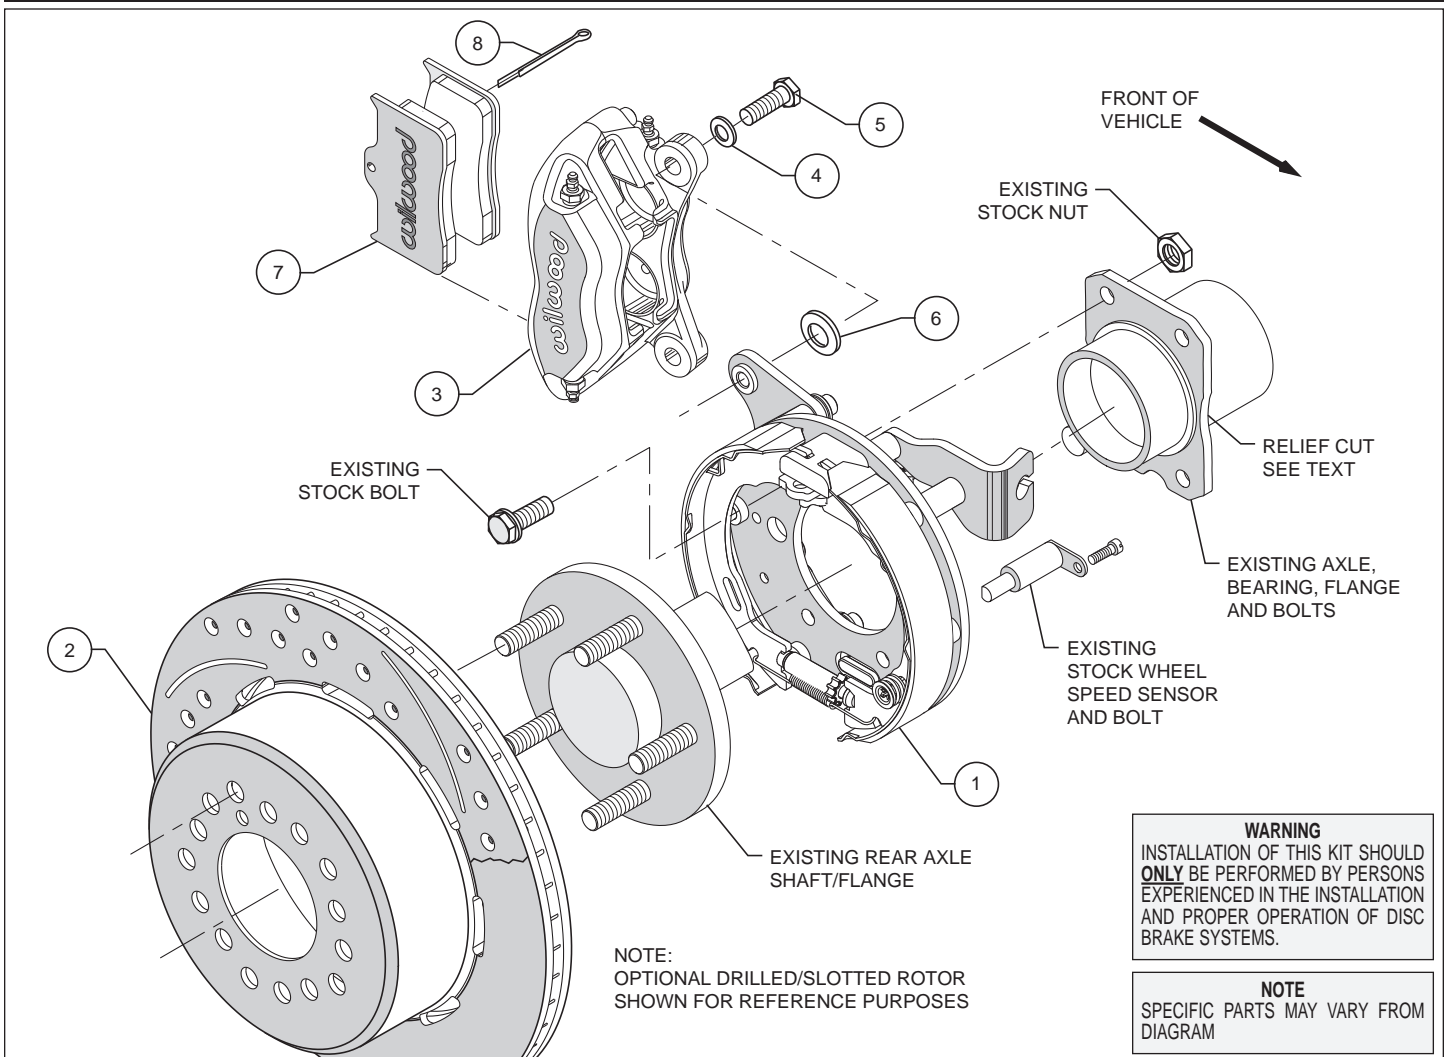
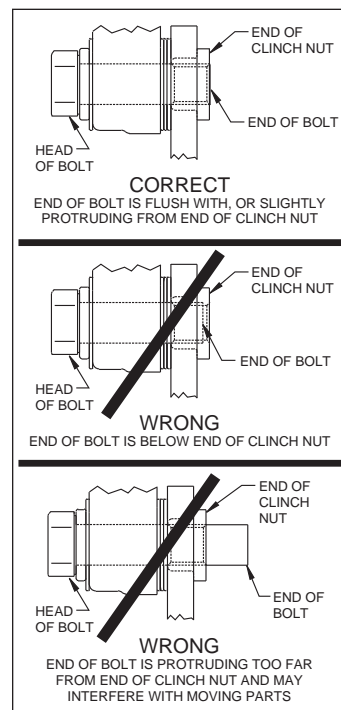

Figure 1. Typical Installation Configuration
Figure 4. Clinch Nut Engagement Diagram
•Orient the bracket assembly (1), as shown in Figure 1, and mount to the axle housing flange using the Original Equipment Manufacturer (OEM) bolts and nuts, Figure 1. Ensure that the bracket assembly backing plate fits flush against the axle housing flange. Apply red *Loctite*® 271 to the OEM bolt threads and torque to OEM specifications.
•Align the correct hole pattern in the rotor (2) with the stud pattern on the axle flange. **NOTE:** Some OEM and after market axles come with stud sizes larger than 0.50" diameter. Verify stud size and have a qualified machine shop drill the bolt circle of the rotor to the correct stud size, if necessary. Slide the rotor over the wheel studs covering the mounting bracket assembly (1) and against the axle flange face, Photo 1.
•**NOTE:** Please reference the caution statement at the beginning of the assembly instructions. Mount the caliper (3) onto the caliper mounting bracket (1) using bolts (5) and washers (4), as shown in Figure 1. Initially place one .035" thick shim (6) on each bolt between the caliper and the bracket, Photo 2. Temporarily tighten the mounting bolts and view the rotor (2) through the top opening of the caliper. The rotor should be centered in the caliper, Photo 3. If not, adjust by adding or subtracting shims between the bracket and the caliper. Always use the same amount of shims on each of the two mounting bolts. **NOTE:** The end of each bolt must be flush with or slightly protruding from the head of the clinch nut, as shown in Figure 4. If necessary place spare shims between washer (4) and caliper mounting ear to achieve the proper clinch nut engagement. Once the caliper